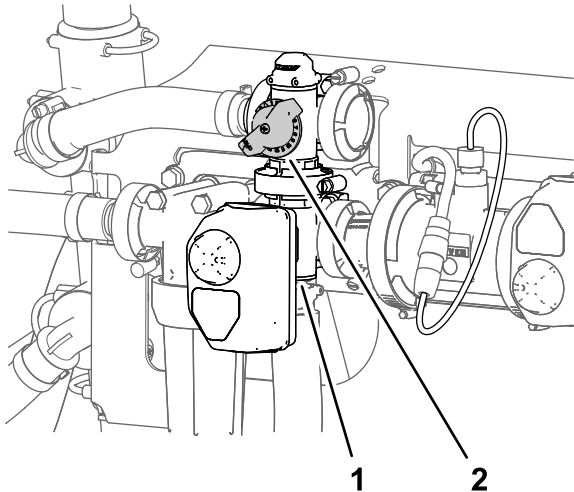

Figure 202
- Adjust the agitation-bypass valve (Figure 202) until the gauge indicates 689 kPa (100 psi) sprayer system pressure.